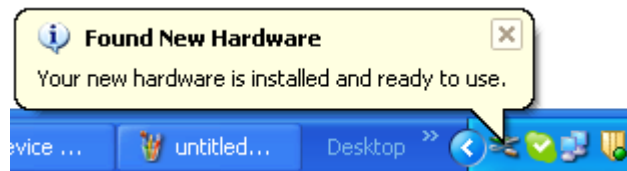

Figure L-7. Installation of USB Composite device
2. After successful installation, the host indicates that the device is ready to use as shown in Figure L-7